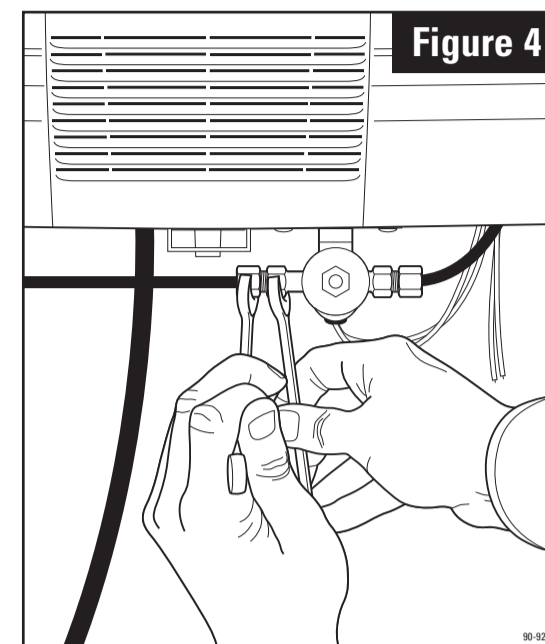

Figure 4
**8.** Connect tubing from the saddle valve to the inlet side of the solenoid valve using 1/4" O.D. copper tubing (not furnished). **DOUBLE WRENCH AS SHOWN IN FIGURE 4 TO PREVENT DAMAGE TO VALVE BRACKET AND ENSURE WATERTIGHT CONNECTION.**